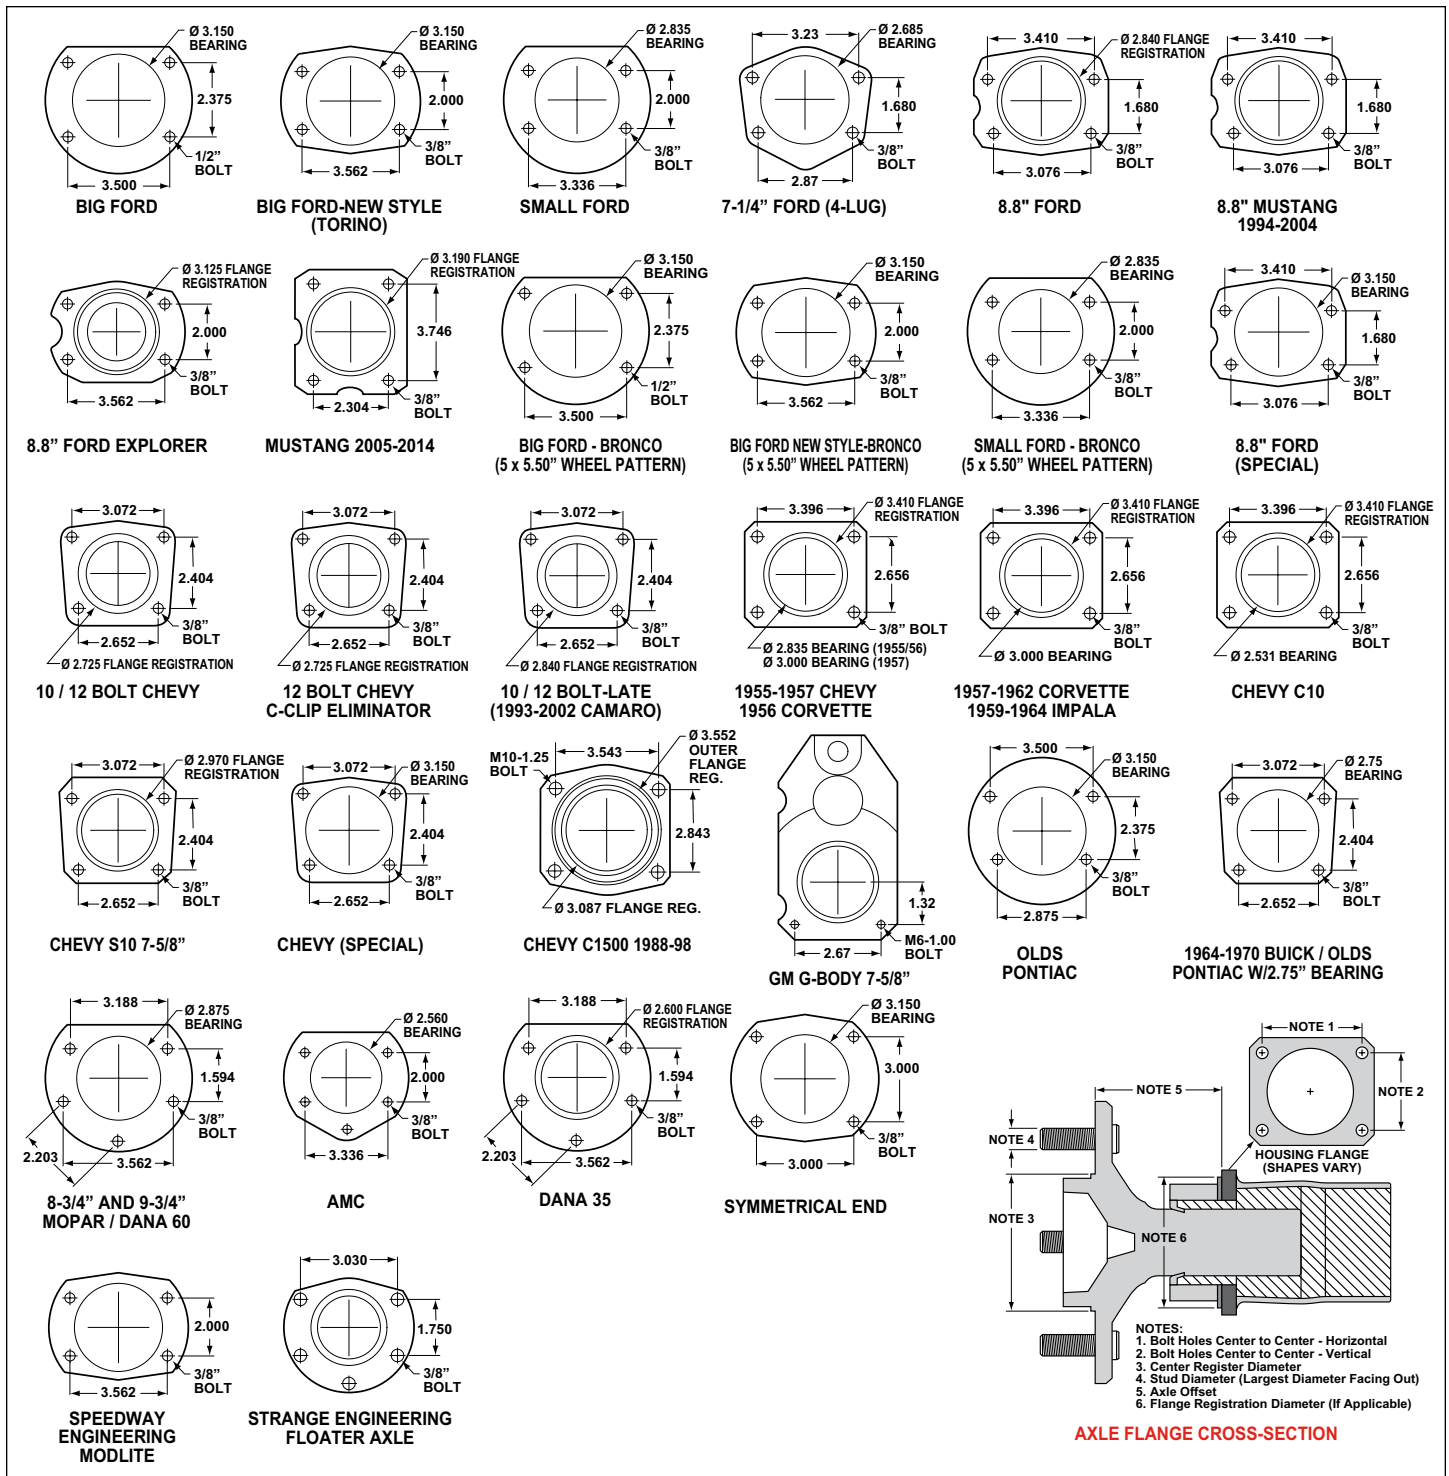

Figure 6. Rear Housing Flange Chart and Axle Flange / Offset Cross-Section
•Make sure this is the correct kit to fit your axle housing flange and axle offset. Multiple rear axle assemblies were available on 1966-77 Ford Broncos. Using Figure 6, check that your rear axle matches the description on page 1 of these instructions (i.e. Big Bearing Ford, New Style, 2.36" Offset).
- Dimension from wheel side of axle flange to wheel side of axle housing flange (see Figure 6, lower right hand corner). This dimension is critical to ensure proper alignment of the rotor to the caliper, and should match offset given in the kit description.